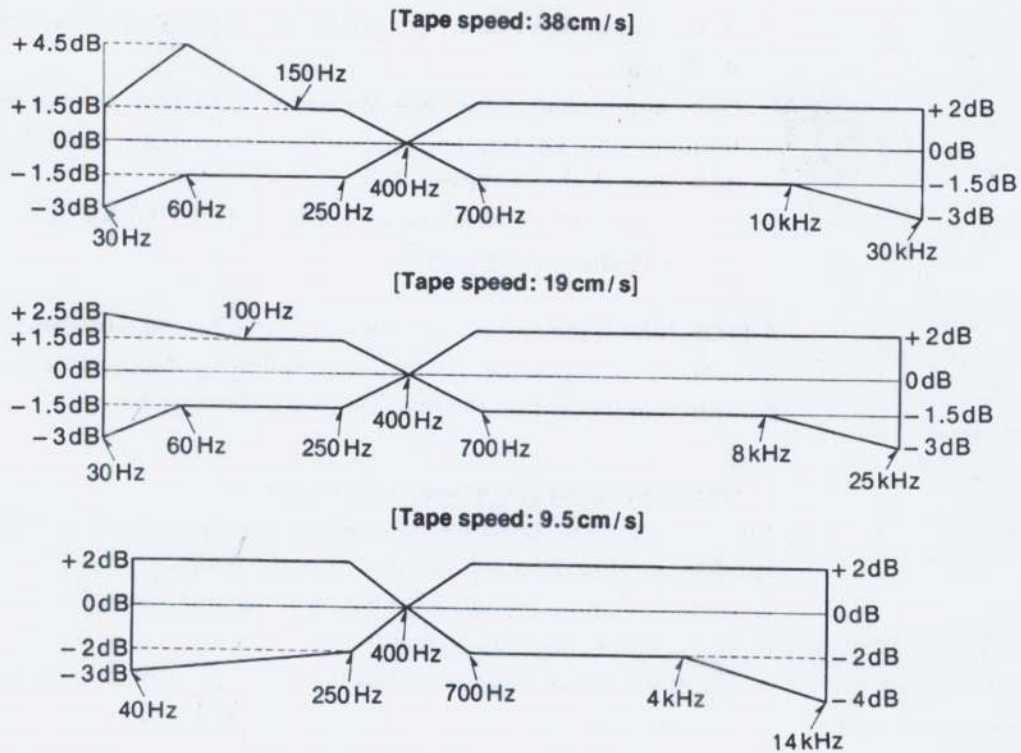
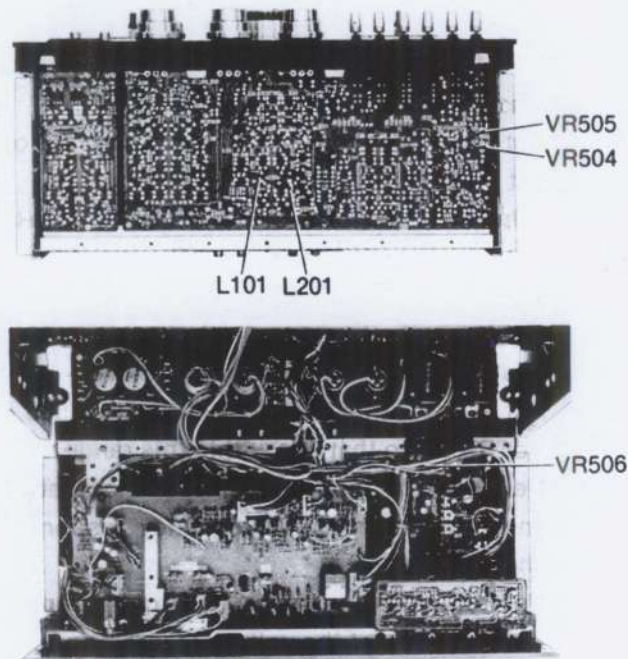

Fig. 58
Fig. 59
6. Next vary the input signal frequency between 24 kHz and 5 kHz, and confirm that the frequency response is within the range shown in fig. 58.
<p>9. If it is not within 0— -1 dB, adjust VR505 and VR504 for within this range.</p> <p>10. Once again change the tape speed to 19cm/s, and input signal frequency to 24kHz, and confirm that playback output is as described in step 4 above.</p> <p>11. If it is not, adjust peaking coils L101 (for L-CH) and L201 (for R-CH) shown in figure 59.</p> <p>After the above measurements and adjustments, measure the overall frequency response at 19cm/s and 38cm/s tape speeds, and confirm that it is within the range shown in fig. 58.</p> <p>Characteristics at 9.5 cm/s tape speed After adjustments described above are complete for 38cm/s and 19cm/s, confirm frequency response at 9.5cm/s.</p> <ol style="list-style-type: none"> 1. Record an input signal of 14kHz, -42dB at 9.5 cm/s tape speed, and measure the playback output. 2. If the measured value is not within the range shown in fig. 58, adjust VR506 so that it is within this range.